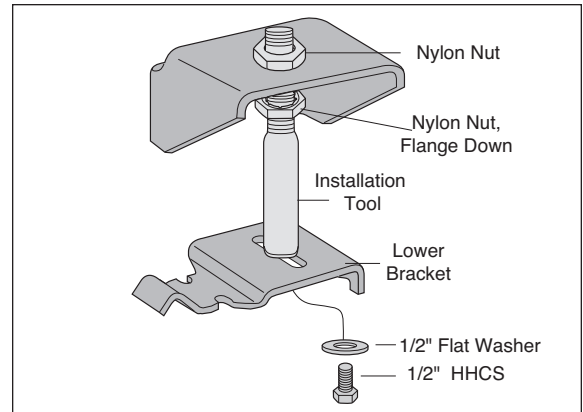

Figure 4
2. Secure the upper bracket (B) to the installation tool (D) using the provided nylon nut (F) (Figure 4).
3. Loosely attach the tool to the lower bracket (C) using  $\frac{1}{2}$ " flat washer (H) and  $\frac{1}{2}$ " bolt (G). Refer to Figure 4. Leave loose for adjustment.